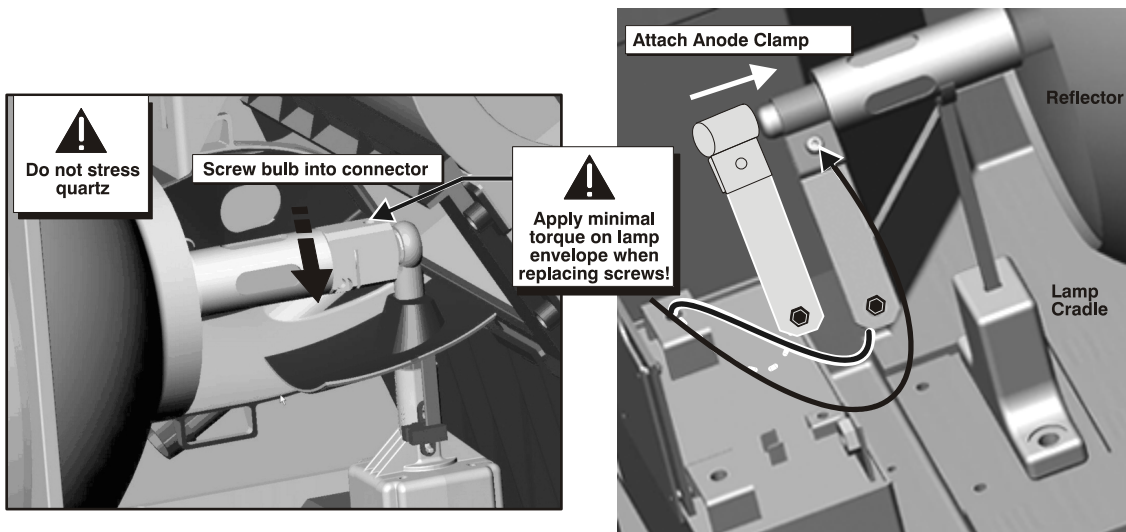

Figure 4-2 Install New Lamp
- e. Tighten set screws in both negative and positive lamp connectors. See **Figure 4-2. Important!** Proper electrical contact prevents resistance in the lamp connectors. **Caution! 1) Handle the lamp by the cathode/anode end shafts only, never the glass. DO NOT over-tighten. DO NOT stress the glass in any way. 2) Check leads. Make sure the anode (+) lead between the lamp and igniter is well away from any projector metal such as the reflector or firewall.**